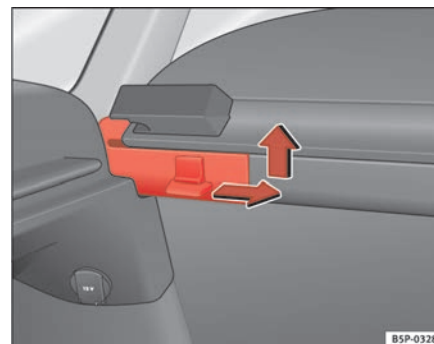

Fig. 125 Removing the luggage compartment cover
- Press the side pin in the direction of the arrow, lift the cover and remove it ⇒ **fig. 125**.